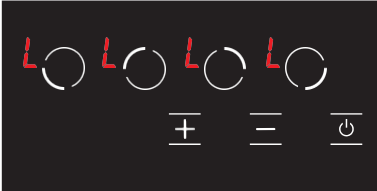

Figure 20
1. The **L** icon is displayed on all displays when the Hob is on and the child lock is active. (see Fig. 20) The **L** and **H** icons are displayed alternatively if any hob is hot. You may turn the Hob on or off with the **⏻** key only.